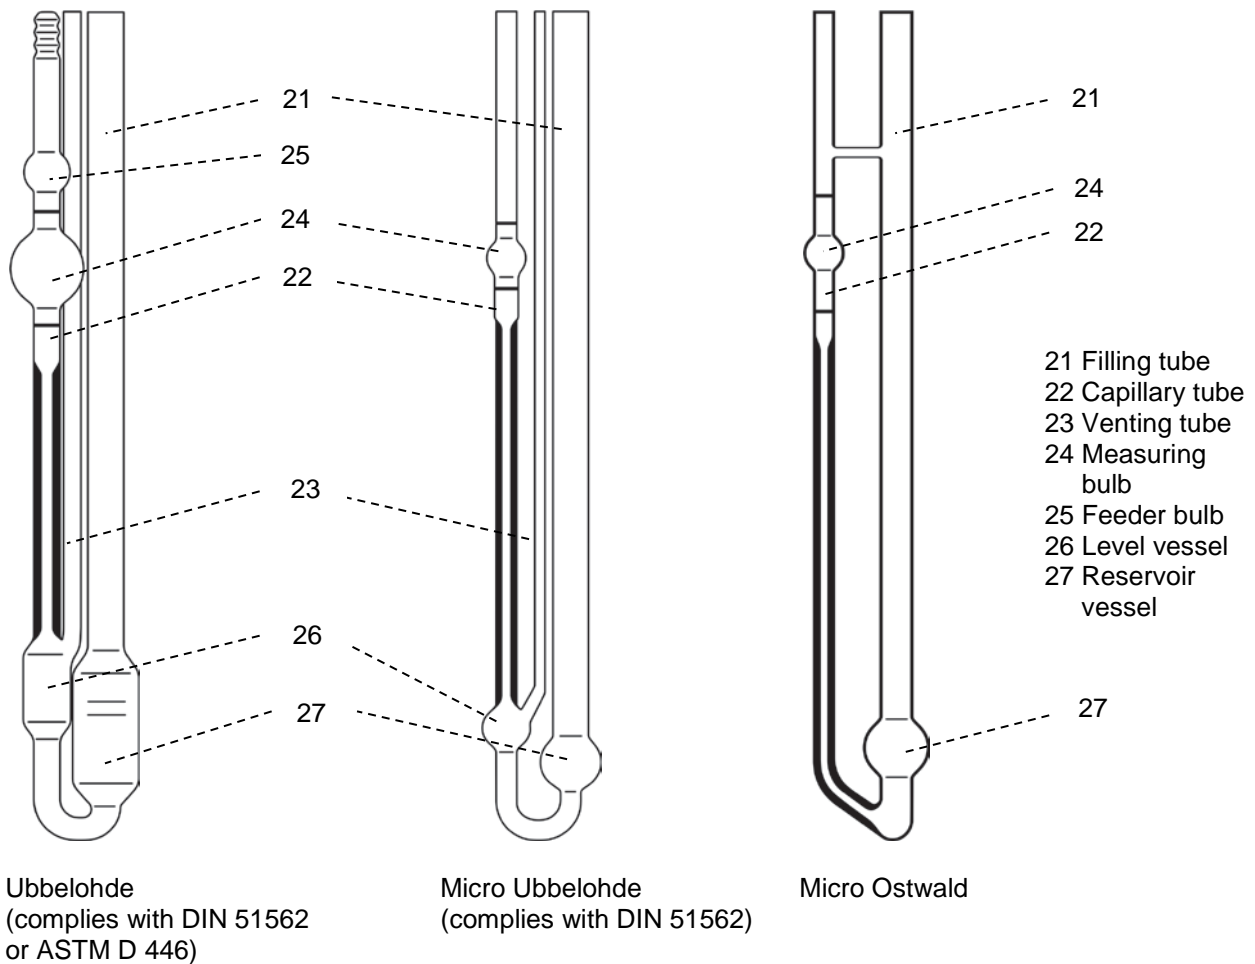

Fig. 2 Description of the usable viscometer models
For Ubbelohde viscometers, the feeder bulb (24) is located above the measuring bulb (25) (see  **Fig. 2**). This feeder bulb should be filled with liquid to at least half by the end of the pumping process.